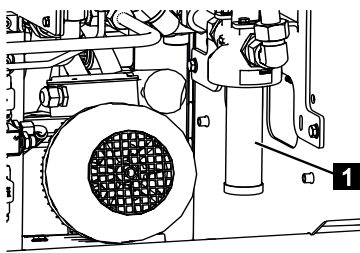

Fig. 245
6. Remove the filter insert (Fig.245/1) and insert a new filter insert.